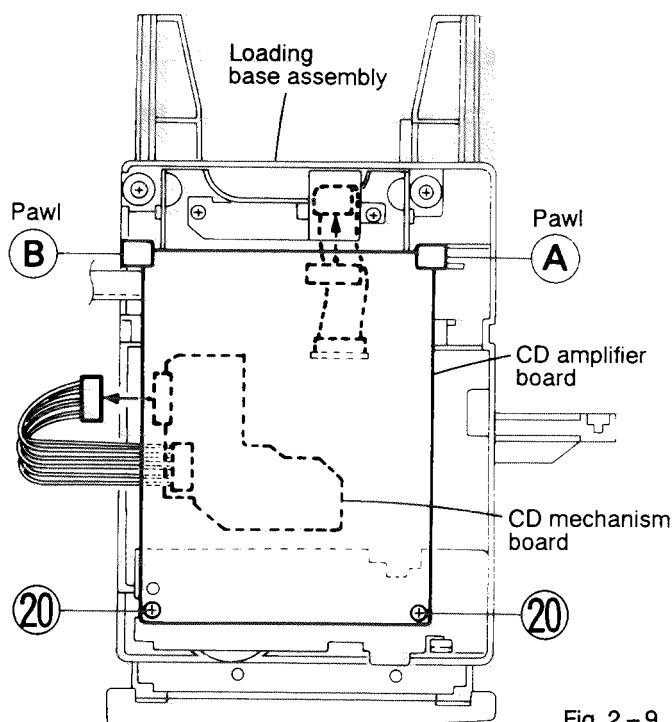

Fig. 2 – 9
3. Remove the two screws ⑳ retaining the CD amplifier board.
5. From the connector CN501 on the CD amplifier board, remove the card wire outgoing from the CD pickup unit. In this case, the card wire should be disconnected after removing the pawls of the connector CN501 in the arrow direction as shown in Fig. 2 – 9.
◆ Removing the CD tray (See Fig. 2 – 10, Fig. 2 – 11)